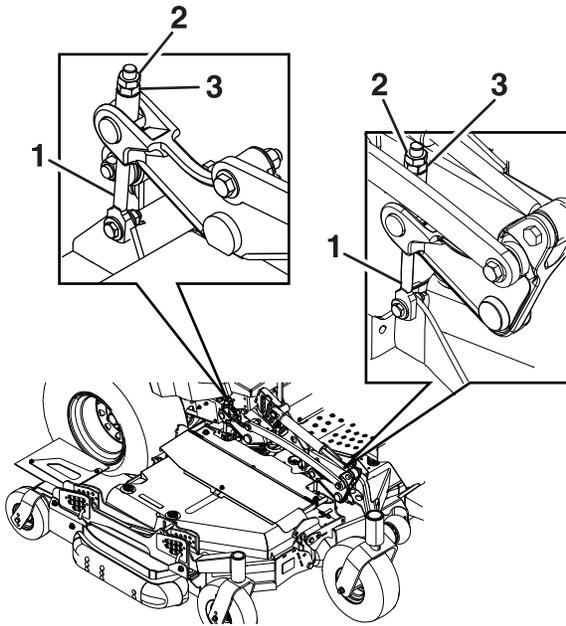

Figure 79
Loosen the jam nuts on the top of each deck adjuster. Fine-tune the adjuster on the front deck-lift assembly by turning it to get the correct height for the left and right, front blade tips on the center deck (Figure 79).
5. If the 4 deck adjusters (Figure 79) do not have enough adjustment to achieve the accurate
- To adjust the single-point system, first loosen the front and rear height-of-cut plate mounting bolts (Figure 79)